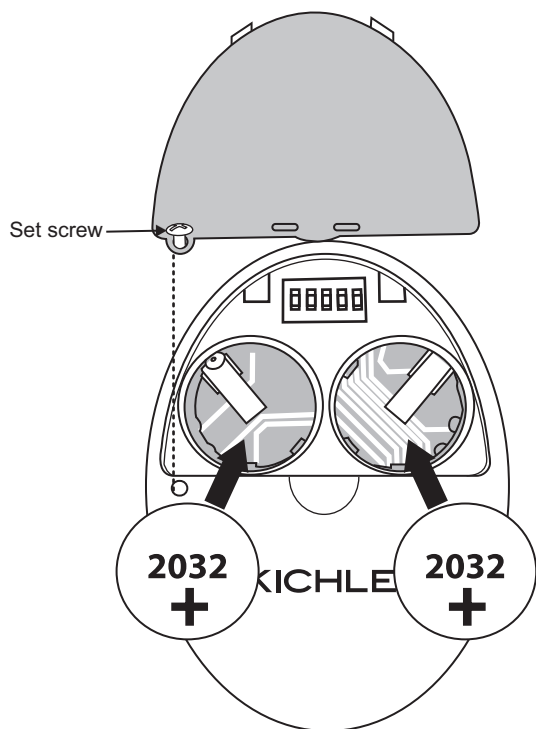

Fig. 17
Open the back of the Transmitter. You need to use a screwdriver to open or close the battery cover (figure 17)
2. Insert both batteries and make sure they are seated correctly in each recess with the Positive + sign facing up. Replace the battery cover. (Figure 17)